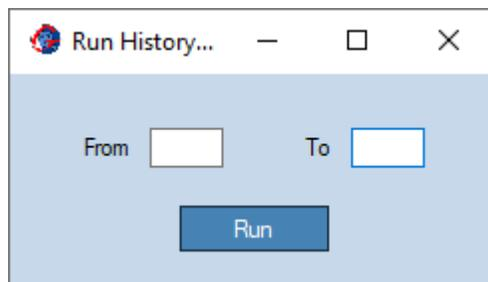

Figure 6: *Geo Meshing History – Run, define range dialog window.*
- **Run:** This option runs a series of events defined by a range. Figure 6 shows the dialog windows for defining the range. *From* and *To* are the numbers shown in the *Geo Meshing v3.2* history windows. Before using this option, select an event in the history window.